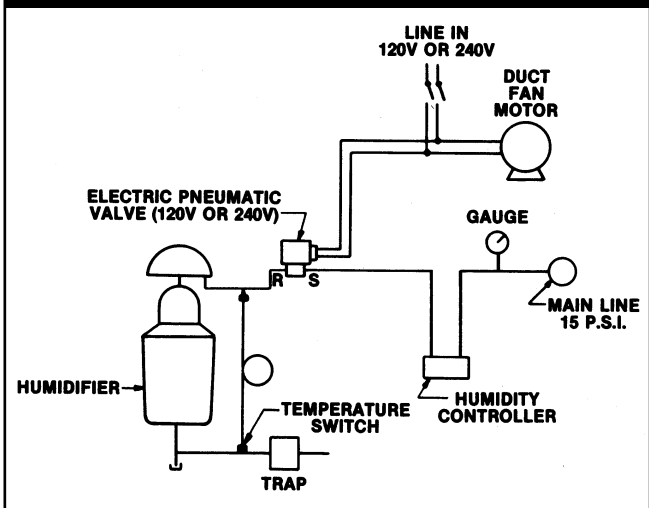

Figure 10-3. Compressed air hook-up for humidifiers utilizing a Honeywell MP953-F pneumatic operator with pilot positioner.
**Note:** When a pilot positioner is furnished, it should be hooked up as shown in Fig. 10-3.